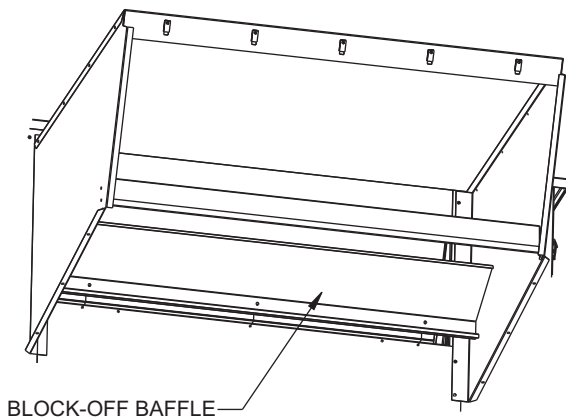

Fig. 30 — Mounting Block-Off Baffle to the Unit
9. Locate and mount block-off baffle using 3 screws. See Fig. 30.